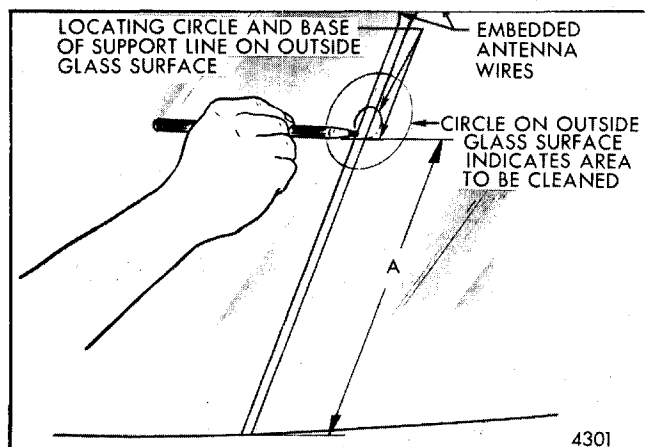

Fig. 11-21 - Locating Bonded Rear View Mirror Support on Glass
1. Determine rear view mirror support position on windshield. Support is located at center of glass at one of following dimensions from base of glass to base of support (dimension "A", Fig. 11-21):
2. When location is determined, mark location on outside of glass with wax pencil or crayon. Also make larger diameter circle around the mirror support circle on the outside glass surface (see Fig. 11-21).